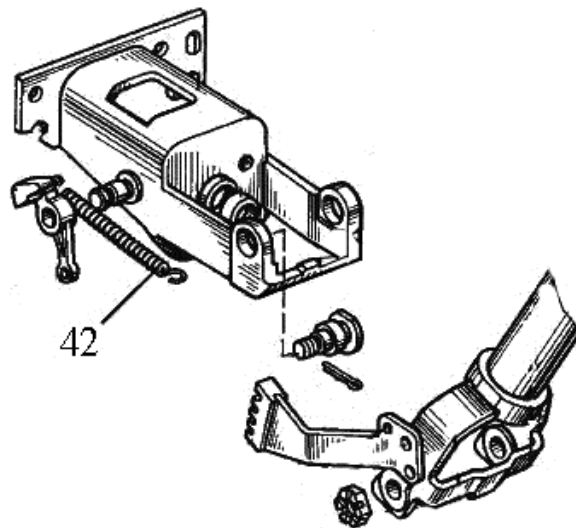

Figure 7.16
7) put spring 42, (Figure 7.16), between clamp and pipe